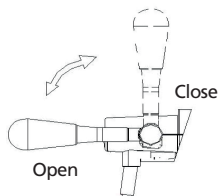
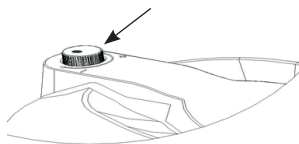

Figure 13
Figure 14
NOTE: When connecting the inlet connector to the dispenser connector, make sure that the dispenser tap (Figure 13) and knob (Figure 14) are closed.
4. Figure 14 is the gas pressure switch knob, "+" and "-" are only the signs of opening and closing, which does not mean that the pressure can be adjusted. Rotate the knob in the direction of "+" or "-". The maximum adjustment range of the knob is 120° to 270°.
10. Turn the knob to the "+" position. Now you can get beer by pressing the tap (push the handle forward 90 degrees. (Figure 13). Note: Please rinse the glass with cold water before getting the beer; the high temperature of the glass will cause a lot of foam; the high temperature of the beer will also cause a lot of foam.